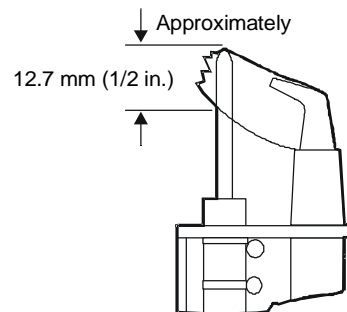

Figure 3: Normal Pilot Flame
6. The millivolt reading should agree with the values listed in Table 1 with a normal pilot flame (see Figure 3).
5. The millivolt reading should agree with the values listed in Table 1 with a normal pilot flame (see Figure 3).